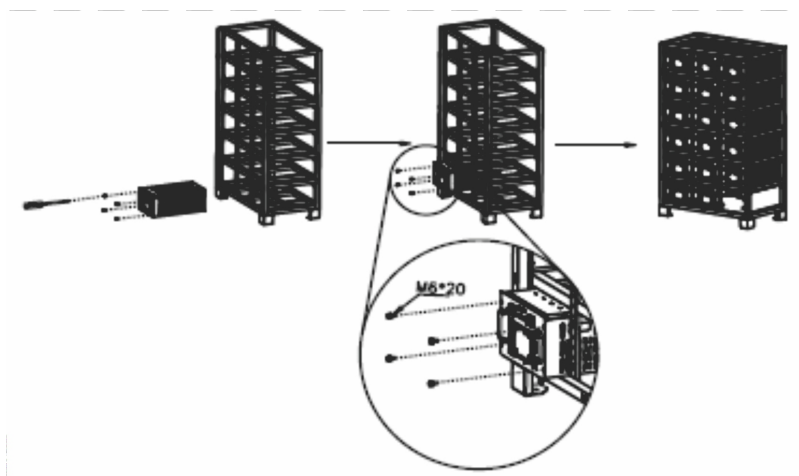

Figure-17 Installation diagram of the battery module
4) Place the battery rack in the corresponding position of the battery pack according to Figure-17, and fix the battery rack to the battery pack with the matching M6 screw.